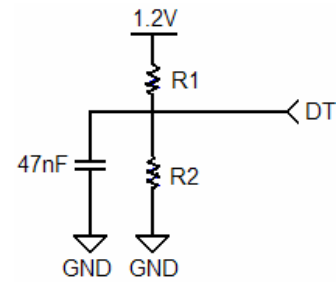
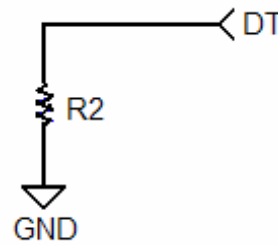

FIGURE 27A.
FIGURE 27B.
**Detection Thershold (DT) Pin Functionality**
The QLx4300-S45 is capable of maintaining periods of line silence on any of its four channels by monitoring each channel for loss of signal (LOS) conditions and subsequently muting the outputs of a respective channel when such a condition is detected. A reference current applied to the detection threshold (DT) pin is used to set the LOS threshold of the internal signal detection circuitry. Current control on the DT pin is done via one or two external resistors. Nominally, both a pull-up and pull-down resistor are tied to the DT pin (Figure 27A), but if adequate control of the supply voltage is maintained to within ±3% of 1.2V, then a simple pull down resistor is adequate (as in Figure 27B). Resistors used should be at least 1/16W, with ±1% precision.
The internal bias point of the DT pin, nominally 1.05V, is used in conjunction with the voltage divider (R1 and R2) shown in Figure 27A to set the reference current on the DT pin.
For channels exhibiting more than 25dB of total loss (this includes cable or FR-4 loss) the DT pin should be configured for a reference sink current (coming out of the DT pin) of approximately 2µA. A typical configuration for a 2µA sink current is given in Figure 27C. If the configuration in Figure 27B is utilized, a 525kΩ resistor is used.